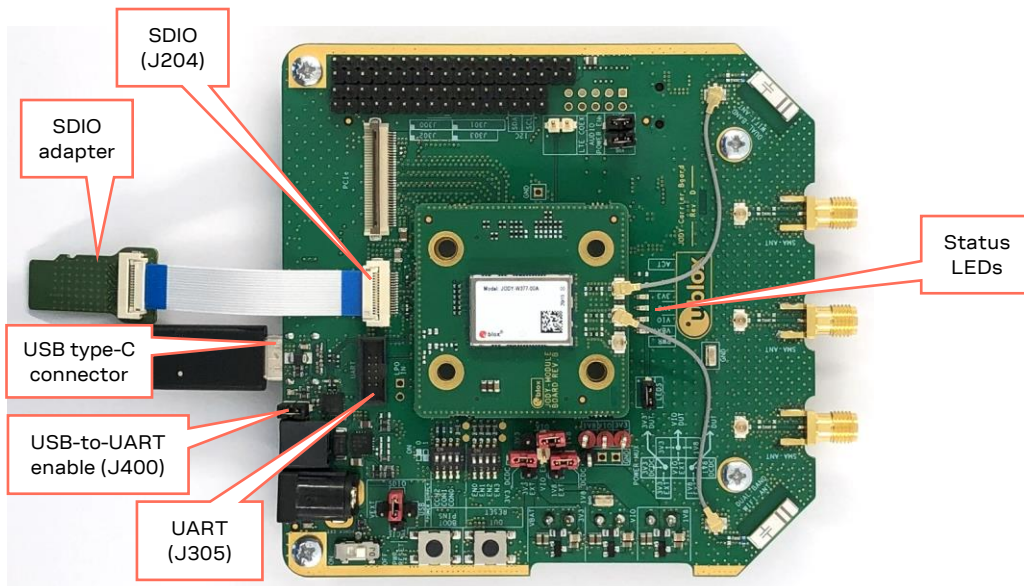

Figure 3: SDIO and USB connectors
- For SDIO connection, connect the supplied micro SDIO adapter card with the flat cable to the SDIO connector (J204) on the EVB, as shown in Figure 3. Insert the adapter card into an SDIO connector of the host system. The SDIO interface can be used for Wi-F communication with the JODY-W3 series module.